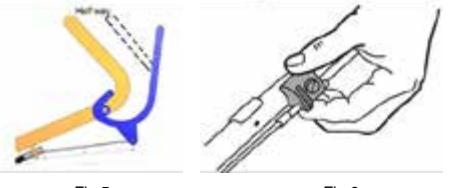

Fig 5
- Wheel the mower backwards toward you while gradually closing the SP bail, and note the position of the bail when extra resistance to backward movement indicates that the drive clutch is just engaging. This extra resistance should occur when the SP bail is half way between open and closed (Fig 5).